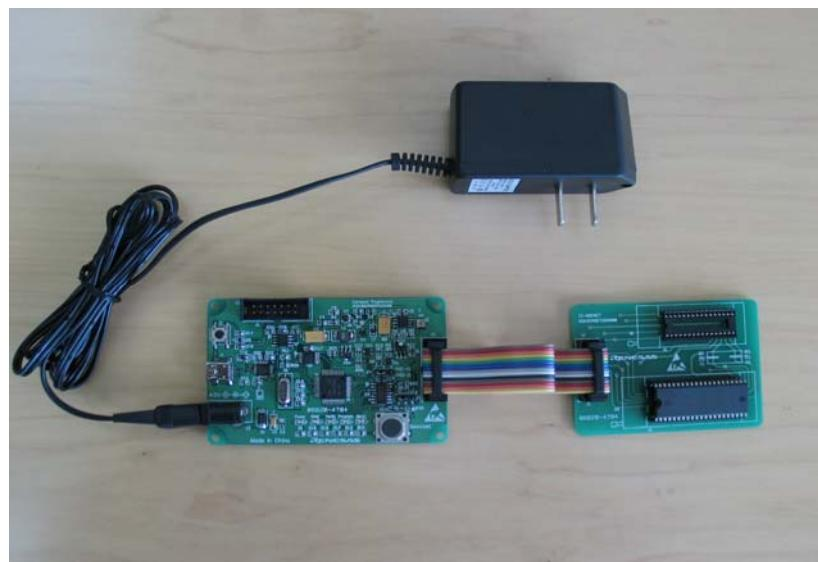

Figure 3-2 Compact Programmer Connection
- Disconnect PC and Compact Programmer, connect Compact Programmer and target board (refer to Figure 3-2);
- Change another user board and repeat (3);